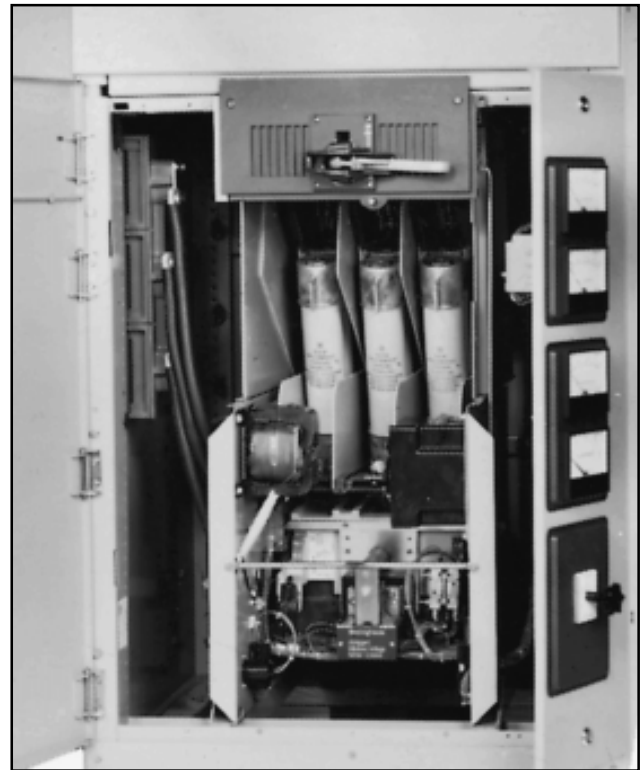
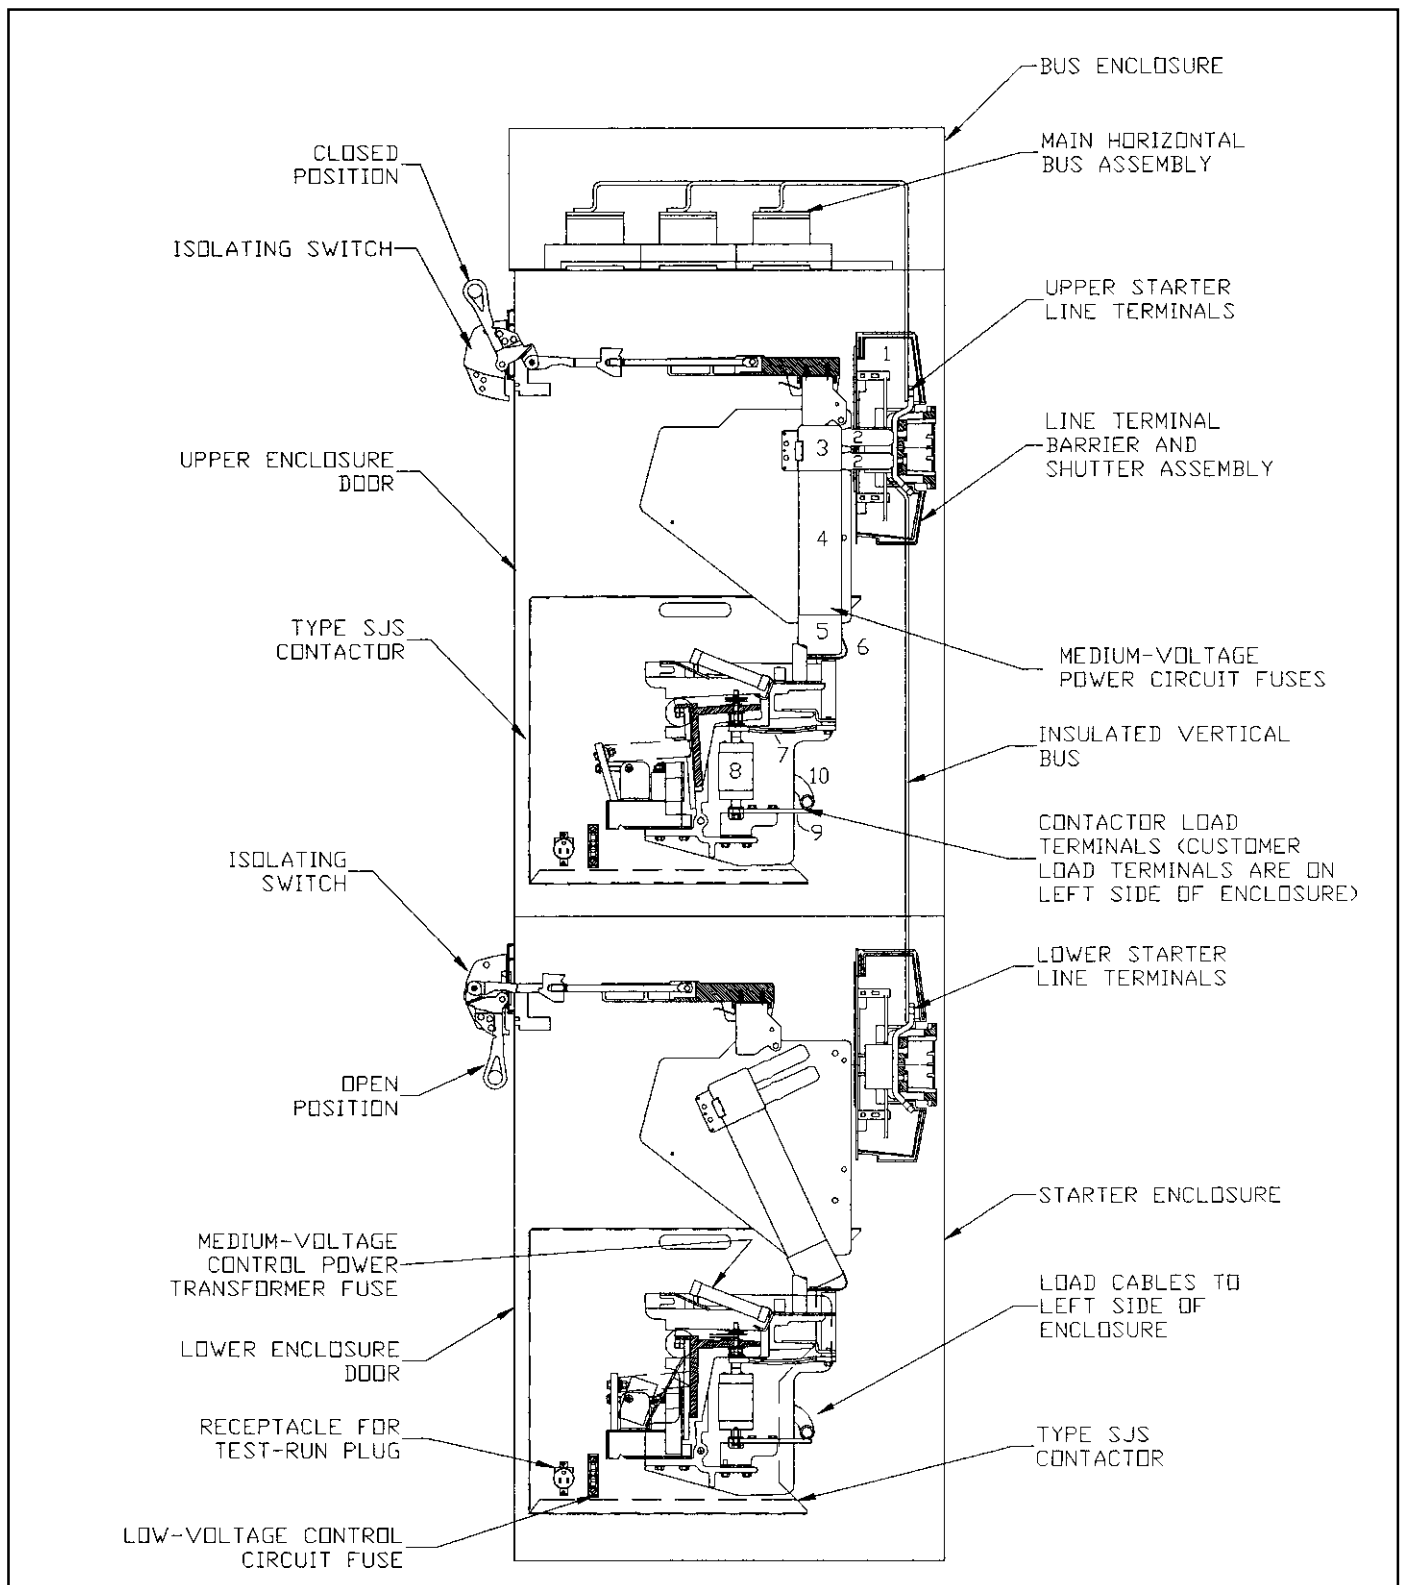

Fig. 2 SJS Contactor & Isolating Switch
Fig. 4 Ampgard® Components, Two Starters (Controllers) Shown
The flow of current through a vacuum-break controller (starter) can be traced by referring to the upper portion of Figure 4, where the controller is shown in the energized position. The line stab assembly mounted at the back of the enclosure also serves as the controller line terminals (1). The stabs themselves are engaged by the fuse jaws (2) of the isolating switch which is mounted on rails above the contactor. The ferrules (3) of the current-limiting motor-starting power circuit fuses (4) clip into the fuse jaws, and the load ferrules (5) fit into the fuse holders (6) which are part of the contactor line terminals. Current flows through the contactor from the load ferrules of the power circuit fuses, through the shunts (7), and the vacuum interrupters (bottles) of the contactor (8), to the contactor load terminals (9). Cables (10) pass through current transformers and connect the contactor load terminals to the controller load (motor) terminals mounted on the enclosure wall to the left of the isolating switch. See Figure 2. Connect the conductors from the motor to these latter terminals.